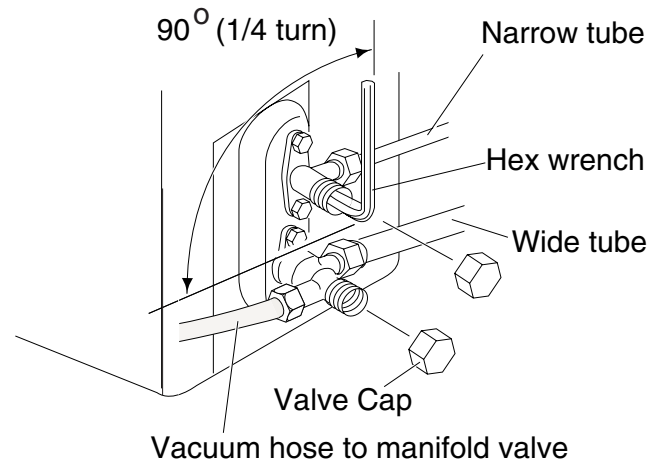

Fig. 36
6. With the accessory hex wrench, turn the valve stem on the narrow tube service valve counter-clockwise by 90 degrees (1/4 turn) for 10 seconds, and then turn the stem clockwise to close it again. (Fig.36)